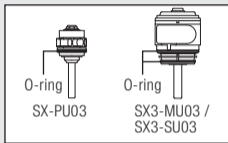

Fig. 41
- Make sure that the O-rings are correctly located on the cartridge (excluding Pana-Max2) (Fig. 41).